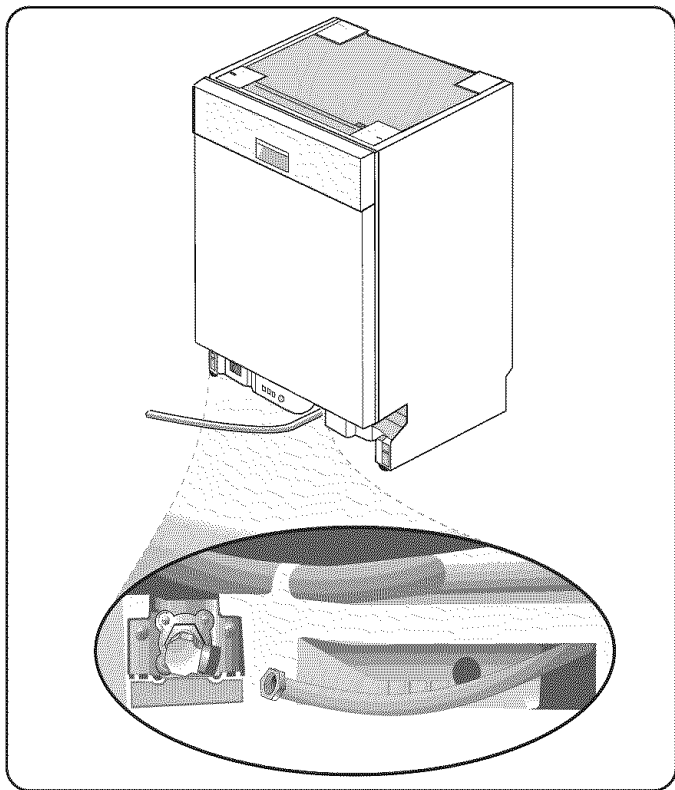

Figure 12
**NOTE:** The 90° elbow fitting is **not** supplied with the dishwasher, and must be purchased separately. If the dishwasher's hot water supply line is to be copper tubing, make certain the elbow has a compression fitting. Apply Teflon tape or other pipe sealant when required. Orient the hot water supply connection leg of the elbow toward the channel opening in the dishwasher base. See **Figure 12**.